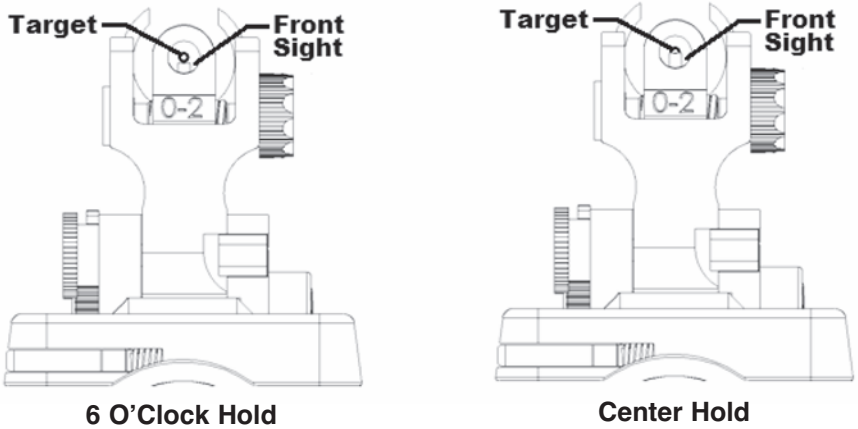

Figure 2
3. Slide the barrel assembly into the upper assembly (see Fig. 2). The barrel assembly should be angled away from the normal upright position, tilted away from the ejection port side of the rifle. If the bolt carrier unlocks during this step, remove the barrel assembly and repeat steps 1 - 3.
2. Choose the appropriate aperture on the rear sight. Determine how you plan to align the front sight post with the target. A center and a 6 o'clock hold are shown below in Figure 2. This hold will then be used for this procedure and should be used consistently going forward.